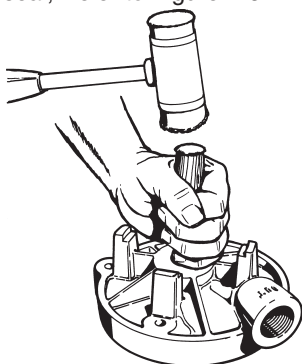

Figure 4-6
9. Before the motor bracket (#1) can be removed, the four (4) "O" rings (#8), located on the upper left and right studs must be removed.
10. Remove the seat portion of the seal, Refer to Figure 4-6.